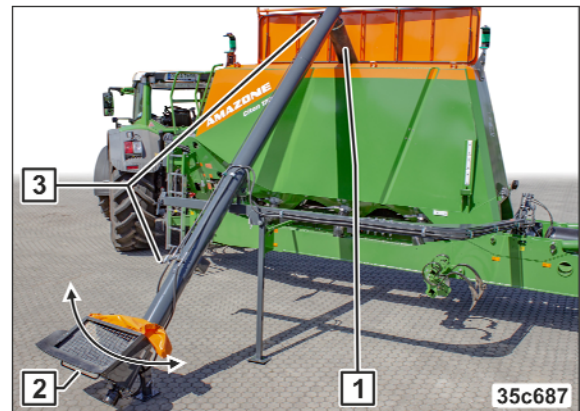

Fig. 249
10. Adjust the filling auger speed on the valve (Fig. 249/3).
11. The outlet (Fig. 249/1) is positioned over the desired hopper chamber by swivelling the filling auger using the handle (Fig. 249/2).